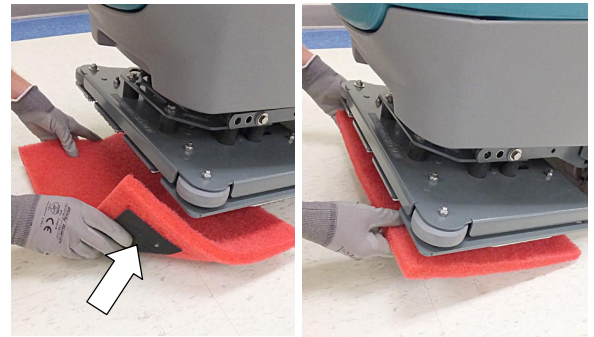

FIG. 20
- Install the backer pad, retaining strips facing outward, to bottom of scrub head (Figure 20). Make sure pad is centered on scrub head.